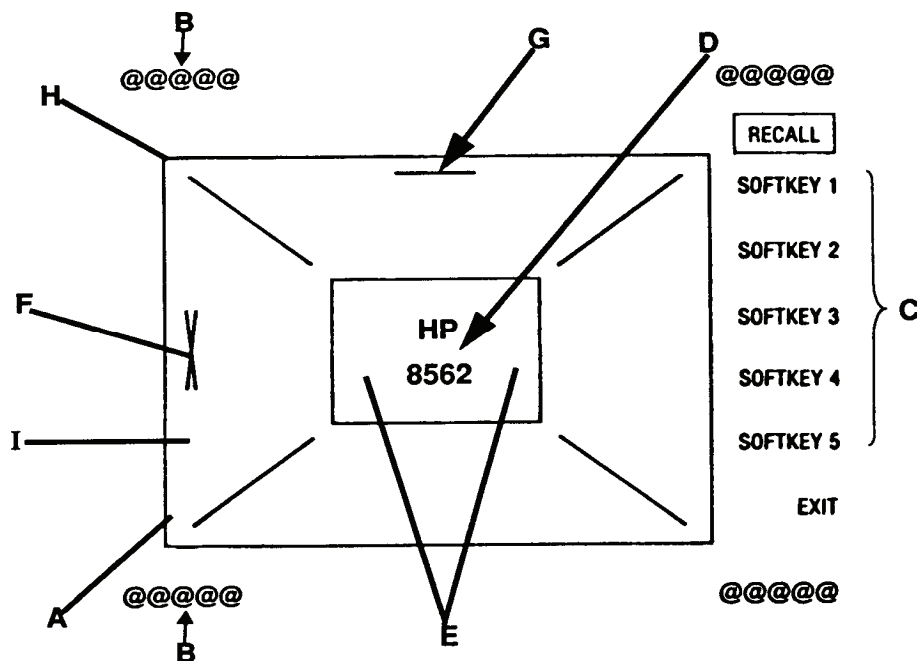

Figure 1. Crt adjustment pattern.
2. Refer to C in figure 1 for softkey location.
c. Press TI keys as listed in (1) through (3) below:
- (1) **INSTRUMENT STATE RECALL.**
- (2) **[MORE].**
- (3) **[CRT ADJ PATTERN].**
d. Adjust **TRACE ALIGN** (rear panel) until leftmost line of test pattern A (fig. 1) is parallel with crt bezel.
e. Adjust **X POSN** (rear panel) until leftmost @ characters B (fig. 1) and softkey labels C (fig. 1) appear just inside left and right edges of crt bezel.
f. Adjust **Y POSN** (rear panel) until the softkey labels C (fig. 1) align with the appropriate softkeys.